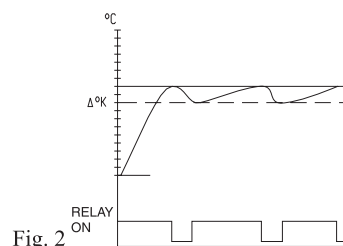

Fig. 2
Turn the potentiometer ④, inside of lid, clockwise for larger hysteresis. Minimum position = 1K, Maximum position = 10K, (see Fig. 2).